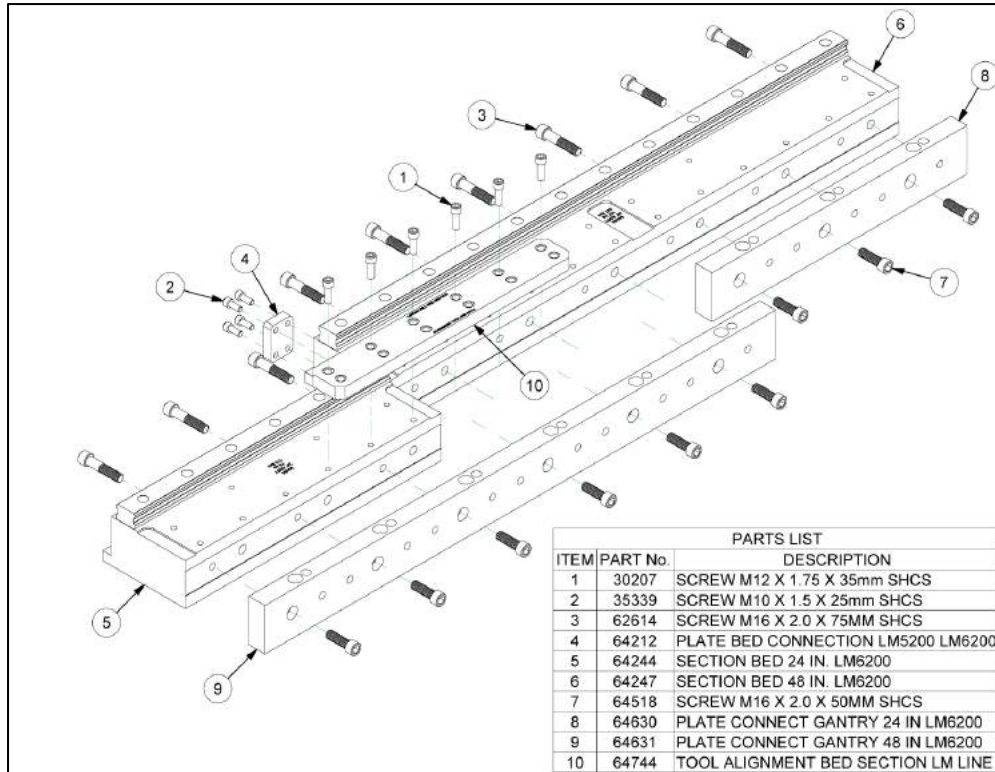

Figure 5
1. Position one 24 inch bed section (Item 5), one 48 inch bed section (Item 6), one 48 inch gantry connect plate (Item 9), and one 24 inch gantry connect plate (Item 8) as shown in Figure 5.
4. Push the bed sections together and install three M16 fasteners (item 3), and three M16 fasteners (Item 7) into the 48 inch bed section (item 6), and 48 inch gantry plate(item 9). Tighten the fasteners to 10 ft-lb.
5. Place a bed alignment tool (Item 10) on the sections as shown in Figure 5, and tighten the fasteners (item 1) to 65 ft-lb.
7. Install a bed connection plate (Item 4) as shown in Figure 5, and tighten the fasteners (item 2) to 40 ft-lbs.